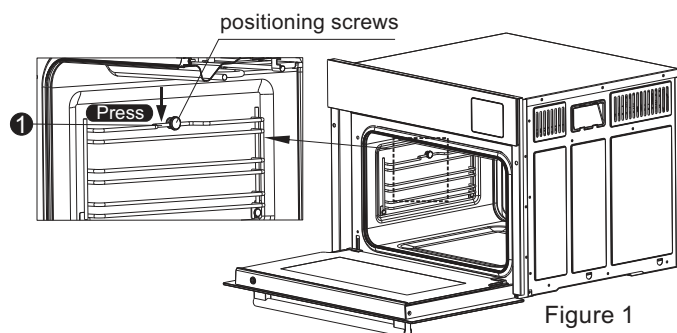

Figure 1
6.Dismantle and install the shelf (the left and right ❶ shelves are in the same way): press the position of the shelf (fig. 1) until the shelf leaves the set screw, and press the arrow (fig. 4) to take it out upward to remove it. Reinstall the shelf, press (Figure 2) to insert the alignment screws 1 and 2 at the lower end of the shelf, and then snap the upper end of the shelf into the set screws.